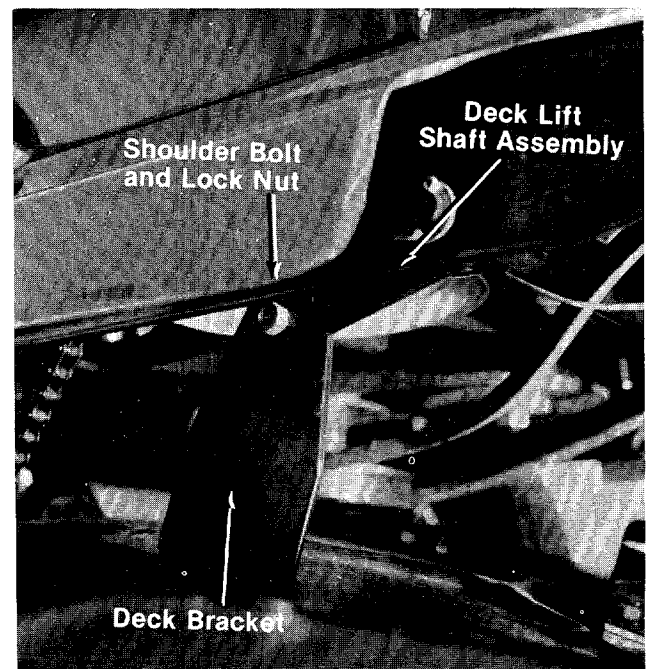

FIGURE 39.
7. Remove the shoulder bolt and lock nut from the deck lift shaft assembly and deck bracket, located on right hand side of deck. See figure 39. A 1/2" wrench and 5/8" wrench are required.